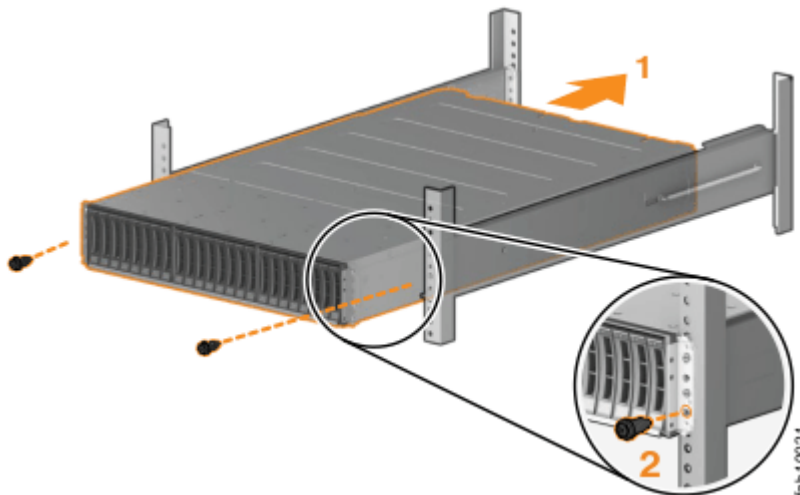

Figure 17. Inserting the enclosure in the rack
3. Carefully slide the enclosure into the rack along the rails until the enclosure is fully inserted (see Figure 17 on page 20).
(See Figure 17 on page 20.) The left end cap has indicator windows that align with the status LEDs (light-emitting diodes) on the edge of the enclosure.